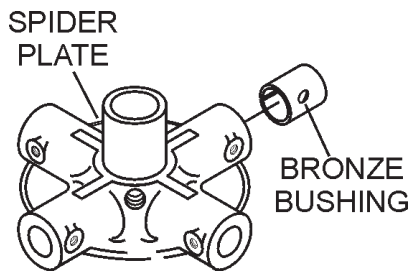

Figure 42. Bronze Bushings
- Examine the bronze trowel arm bushing insert (Figure 42), clean if necessary. Replace bushing if out of round or worn.